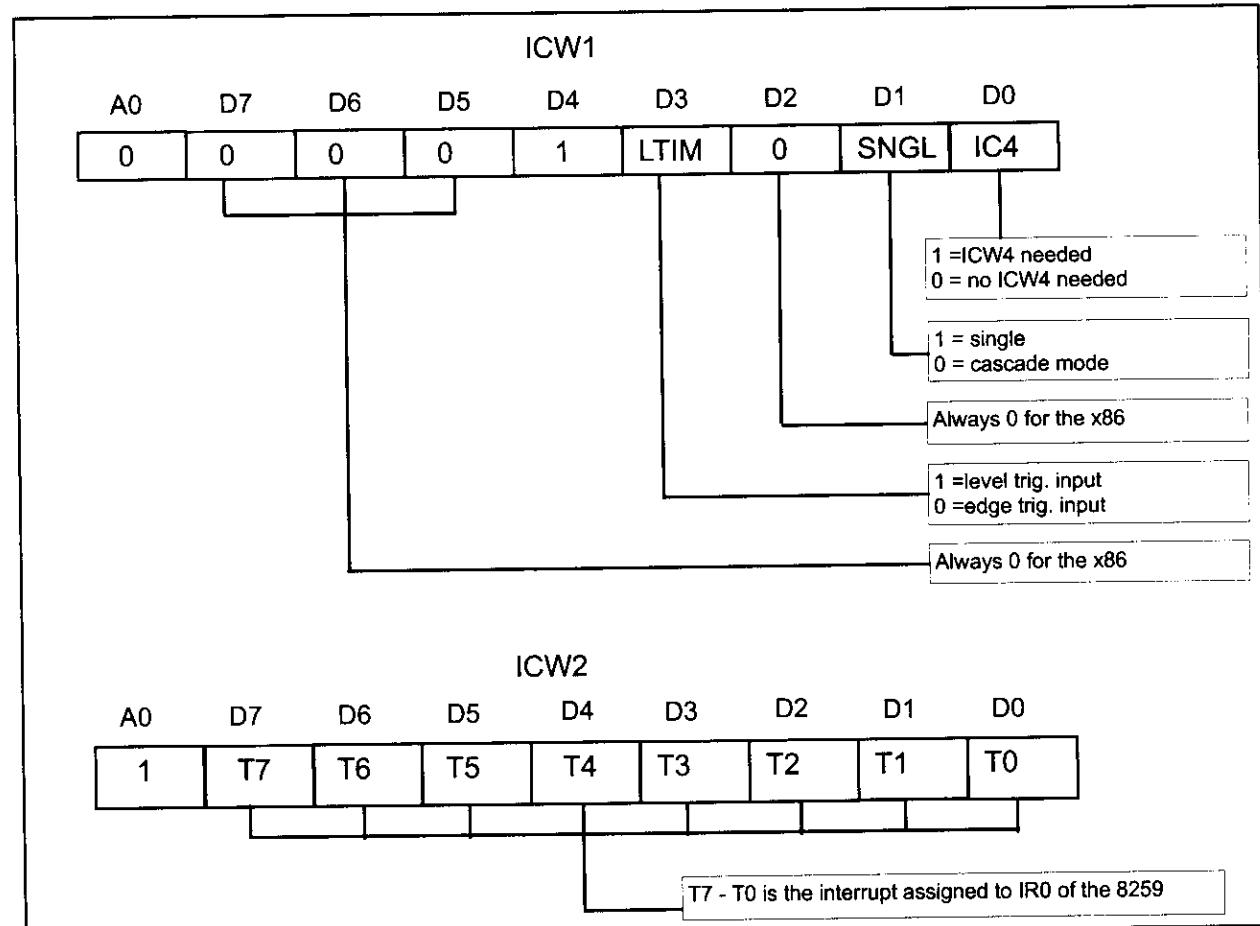

Figure 14-5. ICW Formats (ICW1 and ICW2) for the 8259
In looking at Table 14-3, the question might arise: How can the 8259 make a distinction between ICW2, ICW3, and ICW4 when they are sent to the same address? This is one of the functions of ICW1. D0, the LSB of ICW1, will tell the 8259 if it should look for ICW4 or not. In a similar manner, if D1 is high it knows that the system is configured in slave mode and it should not expect any ICW3 in the initialization sequence. The initialization sequence must always start with ICW1, followed by ICW2, and finally the last one, if needed. There is no jumping ahead. D2 is always set low (= 0) for the 80x86. D3 chooses between level triggering or edge triggering of the input signals IR0 - IR7. In edge triggering, a low-to-high input is recognized as an interrupt request. In level triggering, a high on the IR is recognized as an interrupt request. D4 must always be high. D5, D6, and D7 are all low for the 80x86 microprocessors (they are used only for the 8080/85). See Figure 14-5.
It is the function of ICW2 to assign interrupt numbers to IR0 - IR7. While the lower three bits, D0, D1, and D2, vary from 000 to 111, they, along with D3 - D7 (T3 through T7), form the 8-bit INT type number assigned to the corresponding IR0 through IR7. That means that D3 - D7 can only be programmed according to the assignment of the INT type, with the lower bits being provided by the 8259, depending on which of IR0 to IR7 is activated. See Figure 14-5.
- From Figure 14-5, we get the following for each of the ICWs:
This gives ICW1 = 00011011 = 1BH. To get ICW2, look at Table 14-4. Always equate ICW2 to the INT # assigned to IR0: ICW2 = 01010000 = 50H. Notice that "INT nn", assigned to IR0, can decide only bits D7 - D3 (T7 - T3 in Figure 14-5) of ICW2. This means that the "INT nn" assigned to IR0 must have the lower three bits = 000; therefore, it can take either values of X0H or X8H, where X is a hex number. For example "INT 45H" cannot be assigned to IR0.